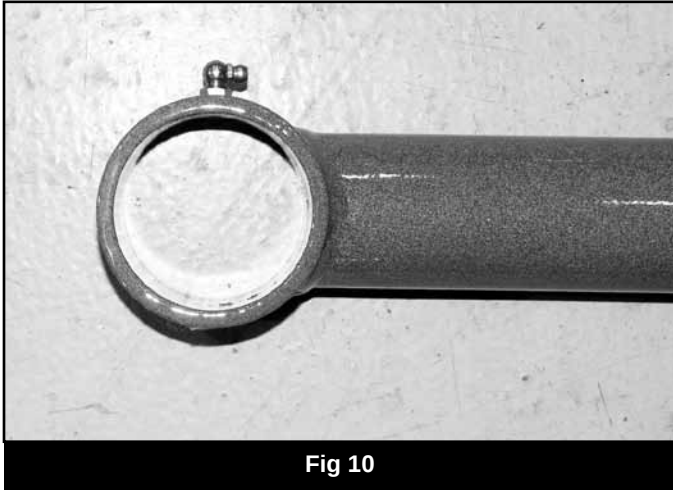

Fig 10
28. Install the provided 90° grease fittings in the threaded holes at the bushing end of the control arms. When installed the fittings should point toward the body of the control arm. (Fig. 10)